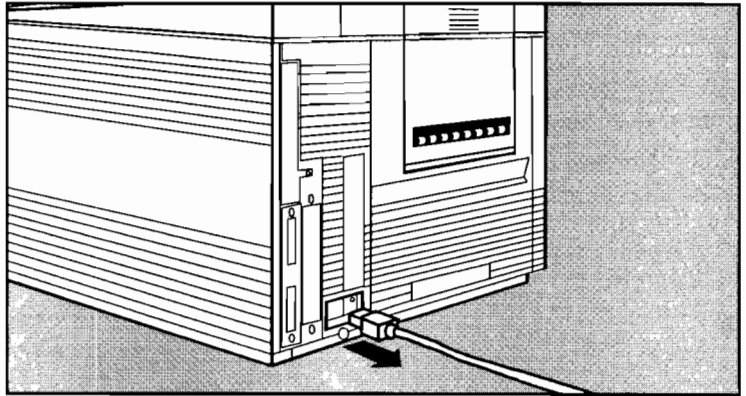

Figure 3-13. Unplugging the Printer
4. Turn the printer off and unplug the power cord the rear of the printer. See Figure 3-13.